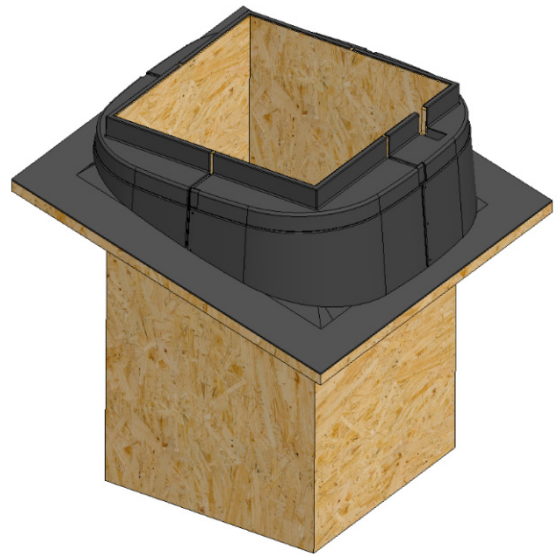

Figure 37 – Skirt extension final position.
2. Top rim of skirt should rest on the top edge of roof upstand - *see figure 37.*